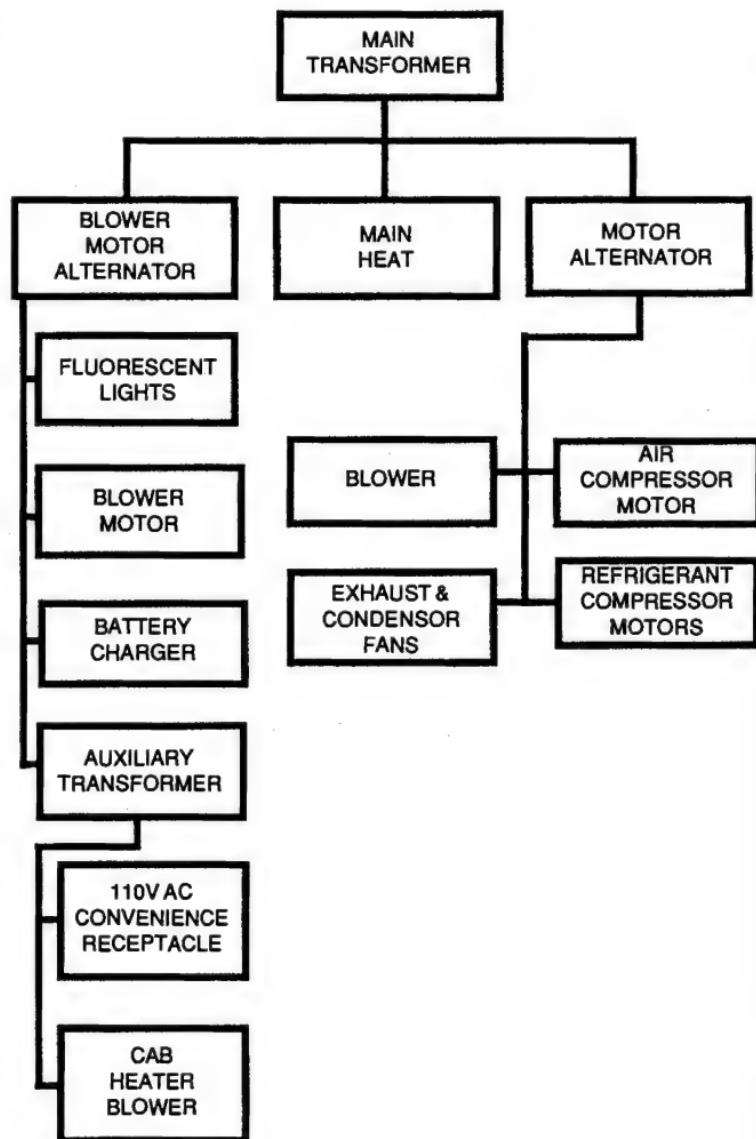

Figure 4-3: Auxiliary Power Electric Subsystem
Auxiliary power for Silverliner II cars is furnished by the Motor Alternator (MA) Set and the Blower Motor Alternator (BMA) Set (Figure 4-3):